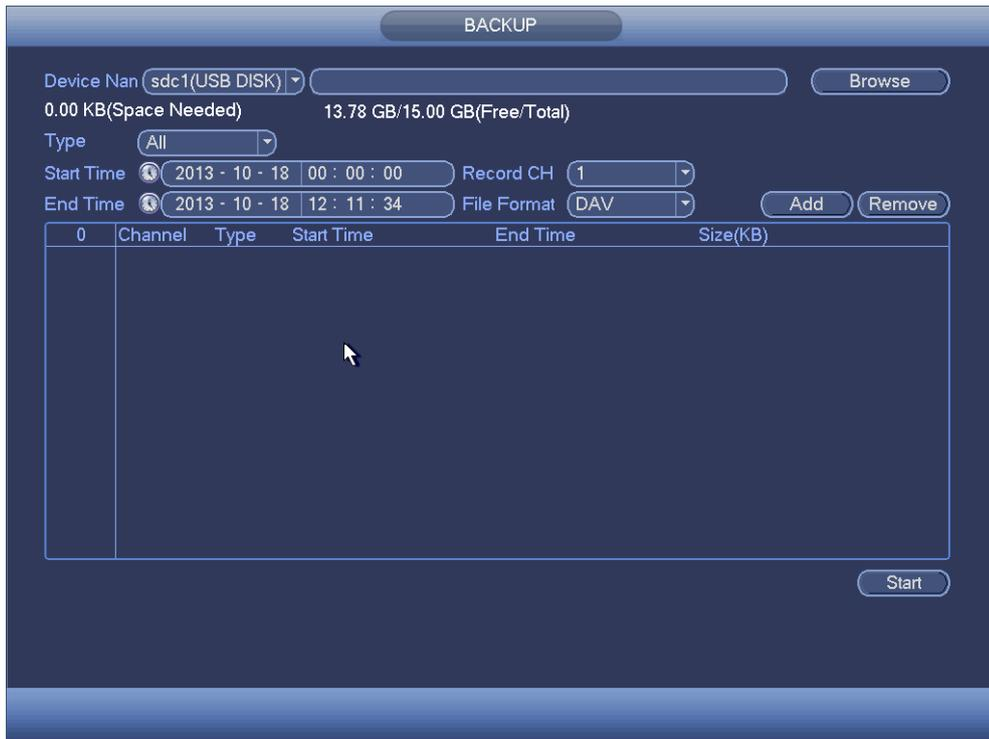

Figure 2-223
- b) From Main menu->Backup, you can go to the Backup interface. See Figure 2-223